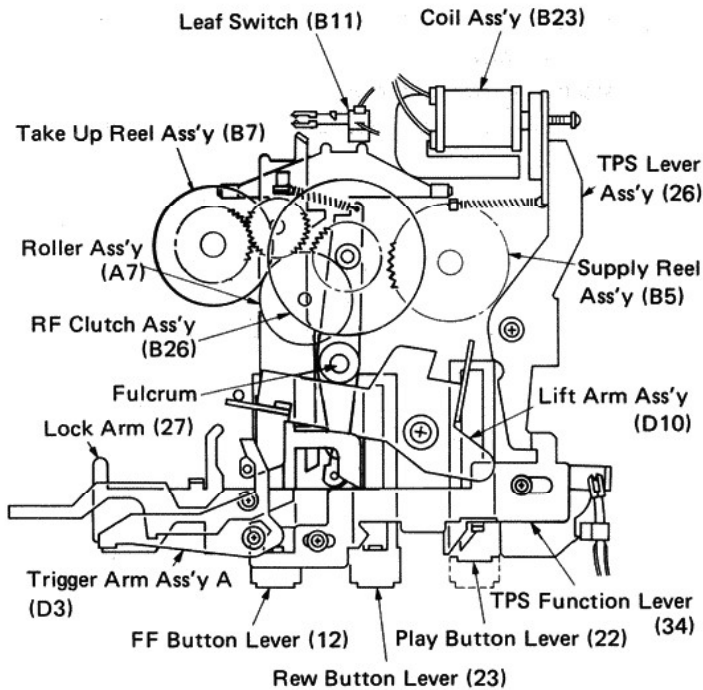

Fig. 25
Fig. 25 shows the status of the TPS-related mechanism in the PLAY mode. (Fig. 25)
- 1 When current does not flow into the coil assembly (B23) because of a no-signal section between tunes, the coil assembly (B23) releases the TPS lever assembly (26). Therefore the rewind button lever assembly (15) having been locked by the TPS function lever (34) is restored to the PLAY condition. (Fig. 25)